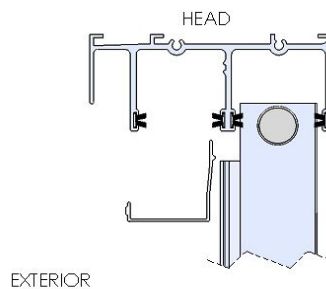

Figure 17:
9. Insert modified plug into interlocker and install Head Closer (Figures 17 & 18).